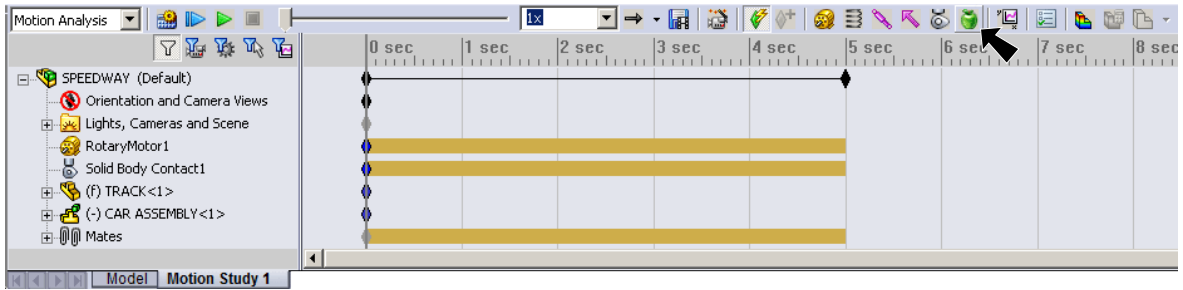

Fig. 13
Step 1. Click **Gravity**  on the Motion Manager toolbar, **Fig. 13**.